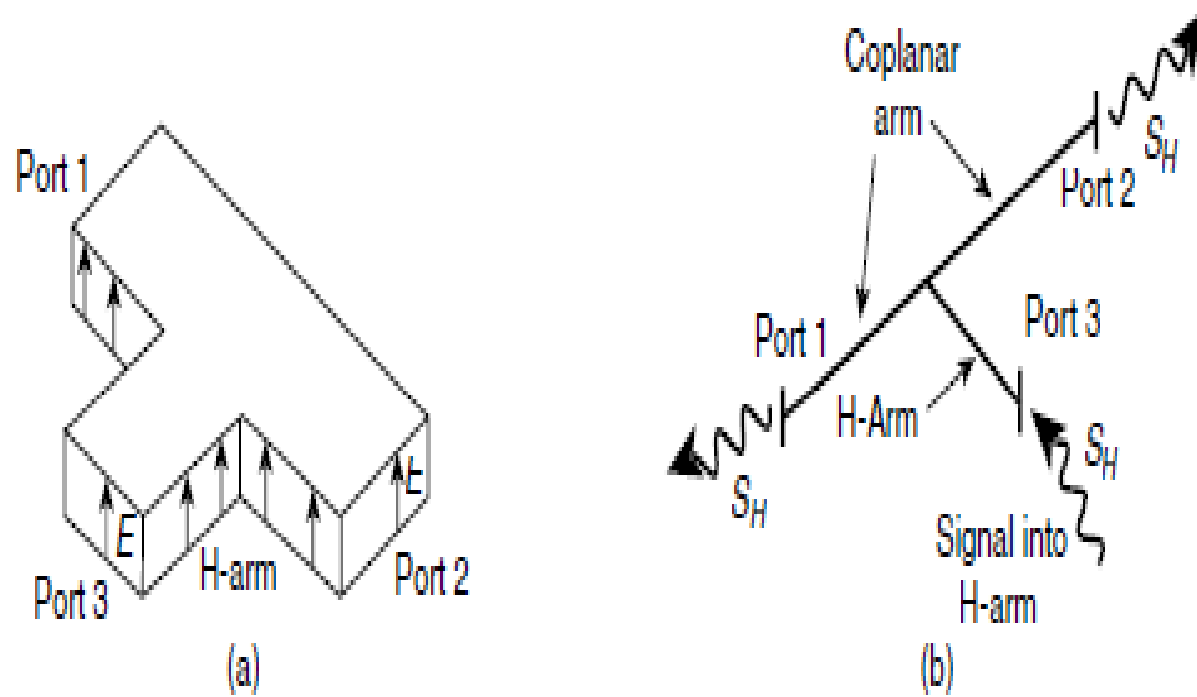

Figure 6.15 (a) *H-plane Tee junction*; (b) *Transmission-line Equivalent circuit of H-plane Tee*
- A rectangular slot is cut along the narrow dimension of a long waveguide, and a side arm is attached as shown in Fig.6.15 (a).